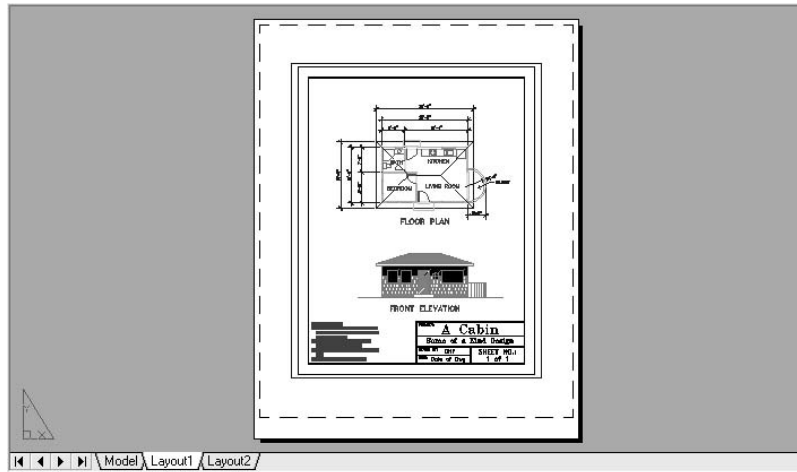

FIGURE 13.3: Layout1 for Cabin11a
11. Highlight Cabin11a-L1, click Set Current, and then click Close to close the Page Setup Manager dialog box. You are returned to your drawing, and Layout1 is displayed (see Figure 13.3).